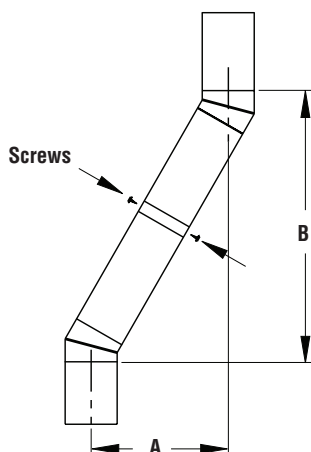

Figure 14 - Elbow Offset
1. To achieve desired offset, you may install combinations of 12", 18", 24", 36" and 48" length of double wall pipe (see offset chart and Figure 14).
3. Maximum length of pipe between supports (return elbow or 12S-8DM) is 6' of angle run. Maximum of two 6' angle run sections per chimney system (see Figure 14).